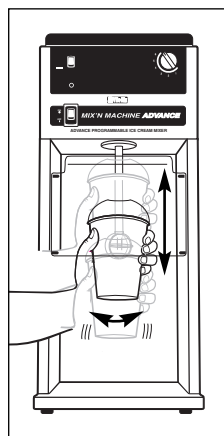

Figure 4
6. With a swirling motion, gradually move the cup up and down around the spinning agitator and completely around all sides of the cup. (If ice cream is hard, this should be done slowly.) Develop your own technique for the desired consistency of the finished product. The agitator will do some chipping and breaking of the solids. However, it is not intended to completely pulverize ingredients as solid chunks are expected to be evident in the final product. See Figure 4.